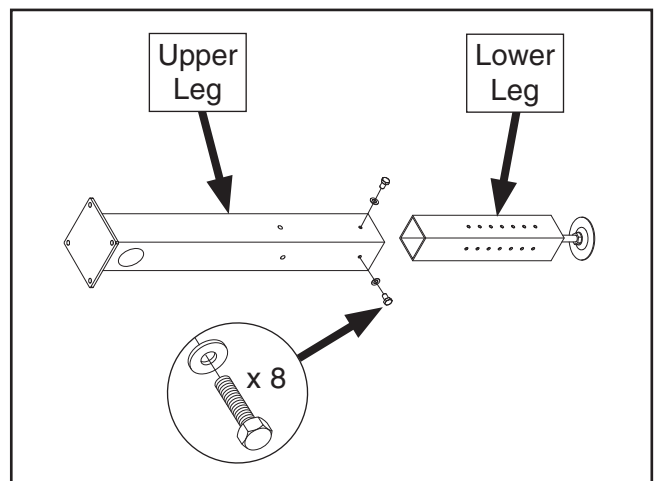

Figure 10. Upper and lower leg.
11. Slide lower legs into upper legs, then secure them together with (8) 5/16"-18 x 3/4" hex bolts and 5/16" flat washers, as shown in **Figure 10**.